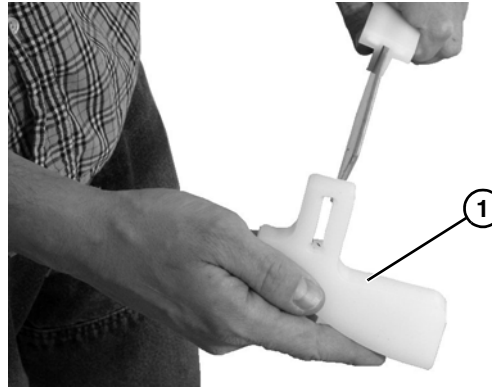

Figure 40
- Remove and replace nose bar idler shoe if worn (Figure 40, item 1).